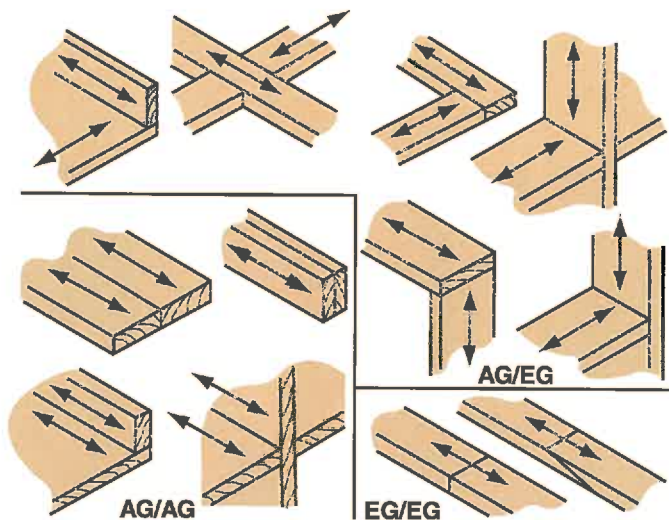

Figure 29-2. Grain direction of the joining components can affect the joint's strength.
strongest. When end grain (EG) is involved, such as an AG/EG or EG/EG joint, the strength is only 10% to 25% that of an AG/AG joint. **Figure 29-2** clarifies AG/AG, AG/EG, and EG/EG joinery.